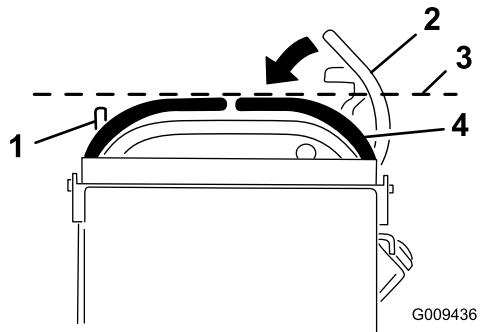

Figure 68
3. Push the right motion control lever down out of locked neutral position (Figure 68).
4. Check if it aligns horizontally with the left motion control lever (Figure 68).